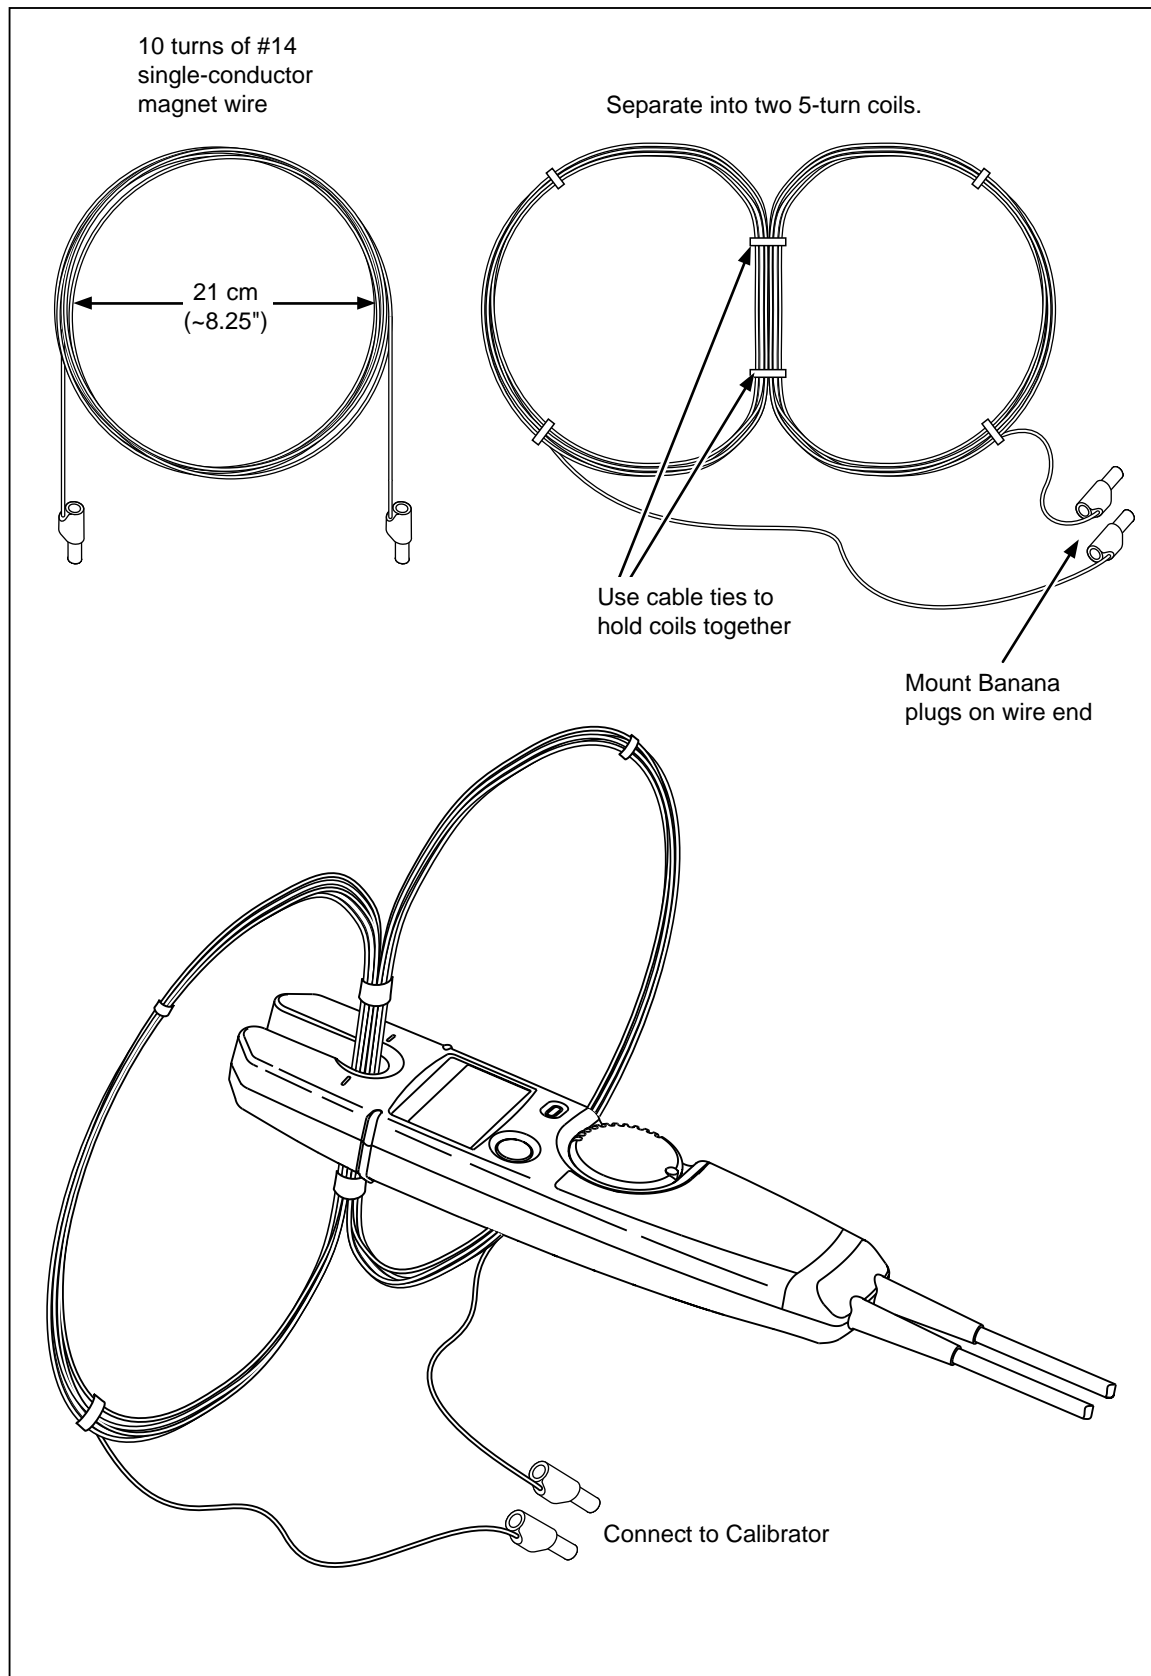

Figure 1. Making the Butterfly Coil
Figure 1 shows how to make the coil.
The tests in this section require the butterfly coil shown in Figure 1. Note that the 10 conductors in the middle of the coil cause the tester to read 10 times more current than the calibrator supplies.
5. Place the tester's current fork around the middle of the coil so that the alignment marks are centered and perpendicular to the wire bundle, as shown in Figure 1.